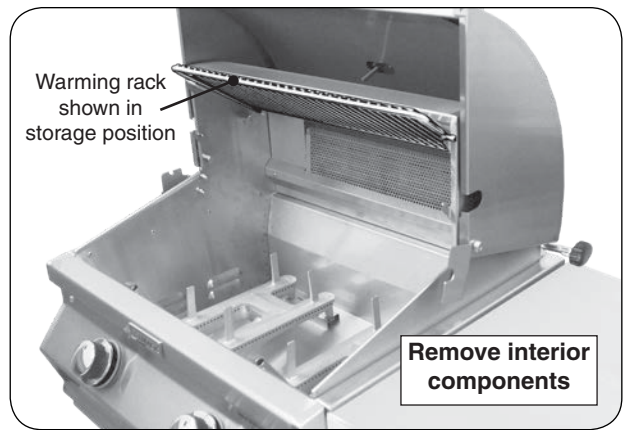

Fig. 26-1 Prepare grill for rotissing
1. Set the warming rack to storage position, remove the backburner cover and cooking grids (see Fig. 26-1).